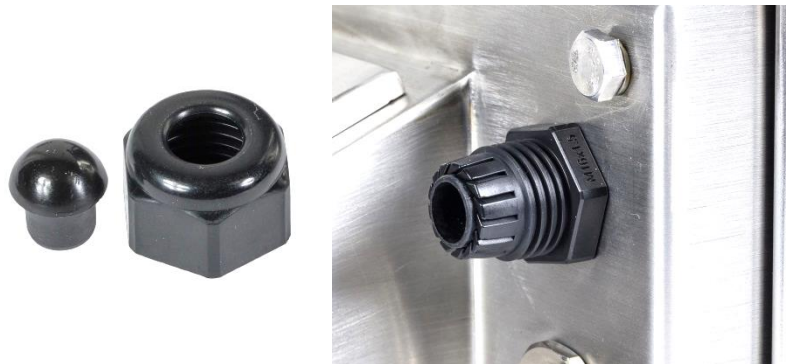

Figure A-12: Cable Gland
- Before connecting wires, pass the cables through an appropriately sized cable gland. Figure A-12 shows a cable gland with its clamping nut removed.